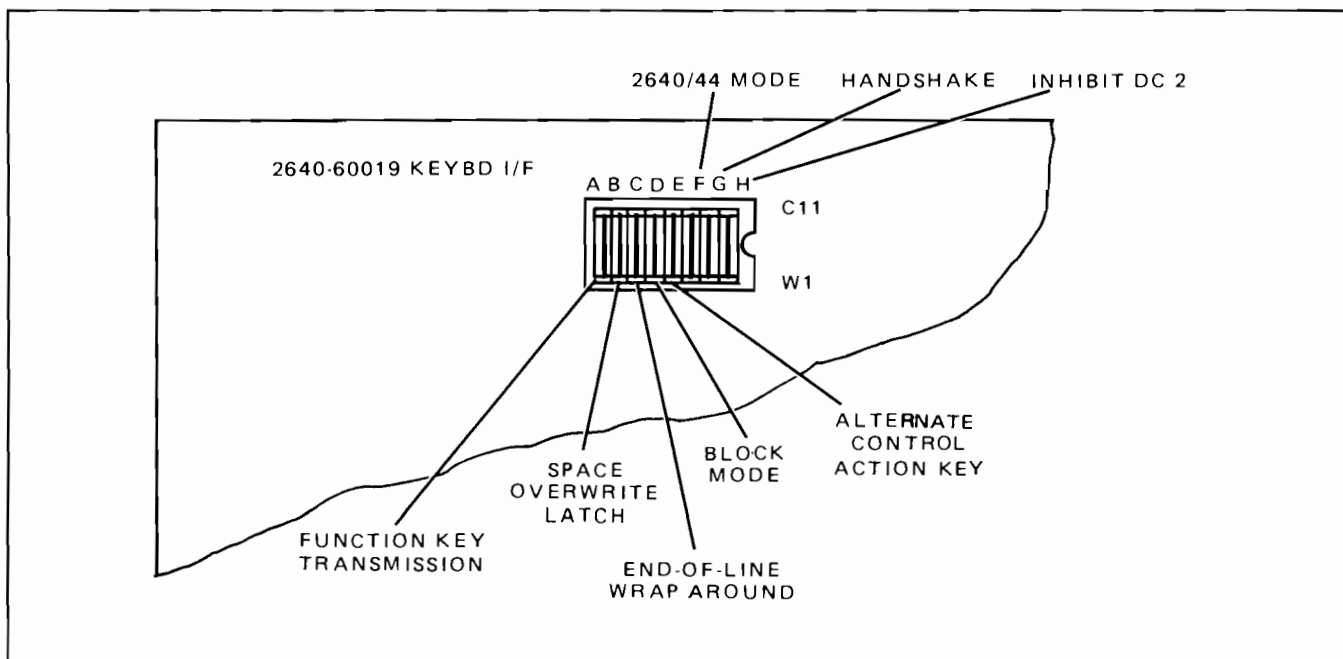

Figure 1-11. Keyboard Interface PCA Jumper Identifications
- c. Using figure 1-11 as a guide, remove applicable jumper(s) from Keyboard Interface PCA jumper socket. Retain removed jumper(s) for possible future use.